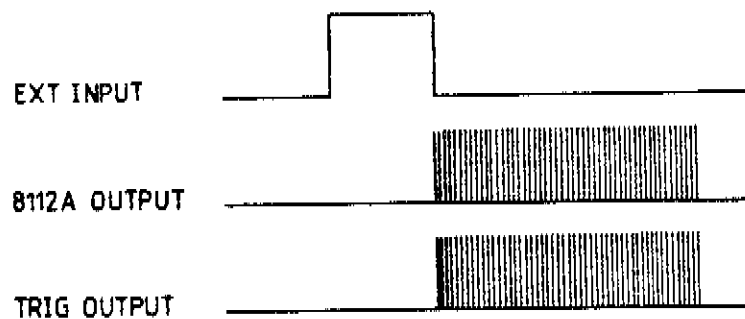

Figure 4-9(D). Example of correct E.BUR operation.
9. Adjust 8112A to trigger from the negative going edge of the external input signal. Verify that each external input pulse generates a burst of 50 output pulses as indicated in Fig 4-9(D).